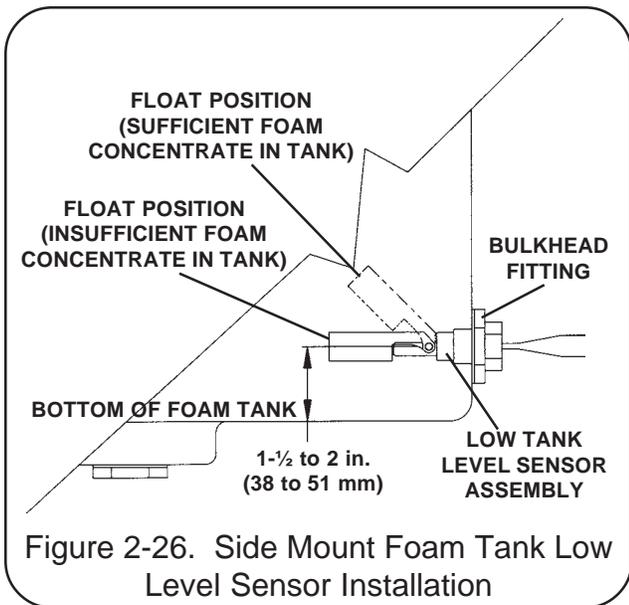

Figure 2-26. Side Mount Foam Tank Low Level Sensor Installation
1. A side mount low tank level sensor is available to be used if the bottom of the foam tank is not accessible. The side mount low tank level sensor has ½ inch NPT threads. If tank design and construction allows, the side mount sensor can be threaded directly into the side of the tank at the proper height. Also the sensor can be mounted on the foam tank using a ½ x 1 inch NPT bushing and a bulkhead fitting with 1 inch FNPT threads (see figure 2-26). The center of the switch must be located at least 1-½ to 2 inches (38 to 51 mm) from the bottom of the foam tank with the float positioned on top of the switch to move up and down.